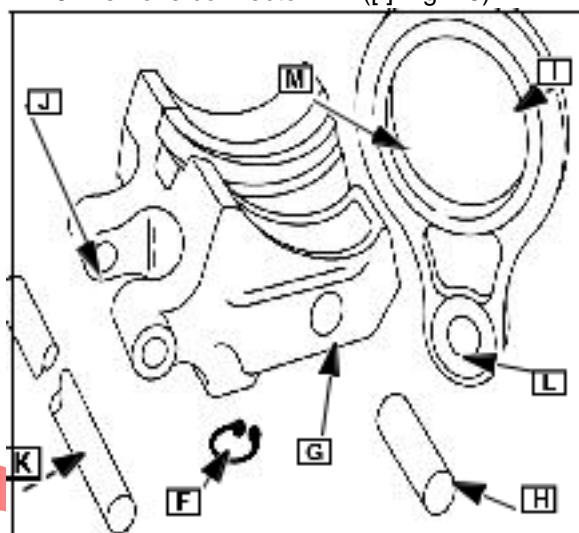

Fig. 13
Remove snap ring (F) from link pin bore (G), and push out link pin ([H] Fig. 13).
6. Remove connector link ([I] Fig. 13).
Inspect the following counterweight components for damage or wear. Replace parts as necessary. Refer to Fig. 13.